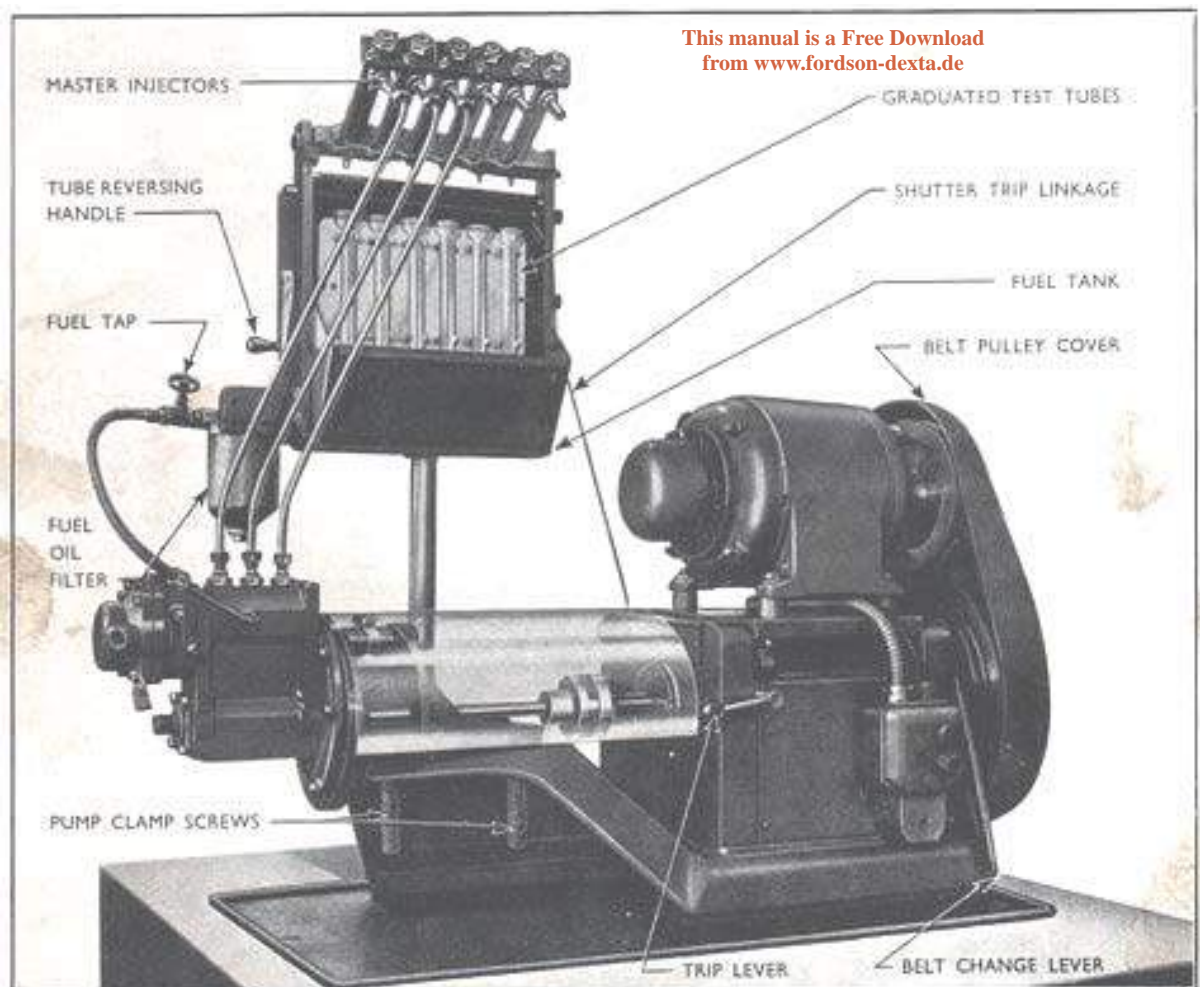

Fig. 18
13. Mount the pump on the calibrating machine (see Fig. 18). Ensure that there is approximately .010 in. (.25 mm.) end-float of the pump drive shaft, and that the grub screw on the movable coupling is tightened fully.